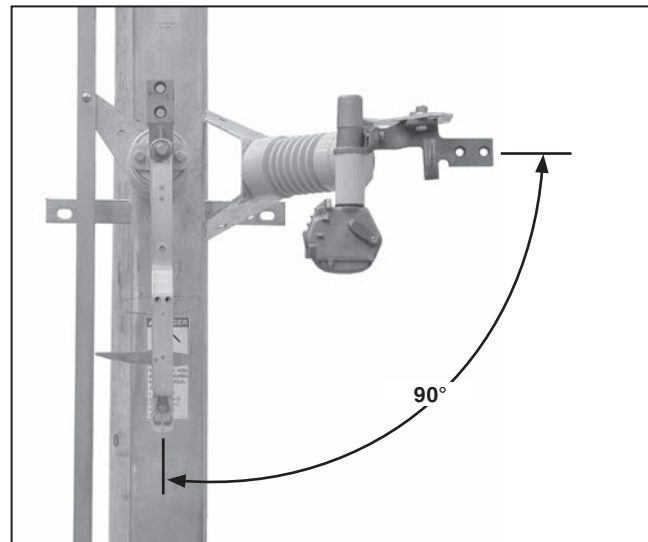

Figure 37. Checking that the switch blades are 90 degrees from the Closed position.
- (b) With the operating handle as far as it will go in the opening direction, the switch blades are 90 degrees from the **Closed** position. See Figure 37.